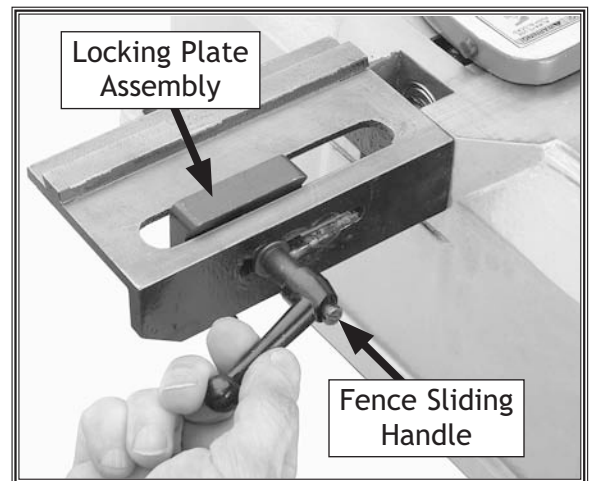

Figure 14. Securing the locking plate assembly with the fence sliding handle.
4. Secure the locking plate in position with the fence sliding handle, as shown in Figure 14.